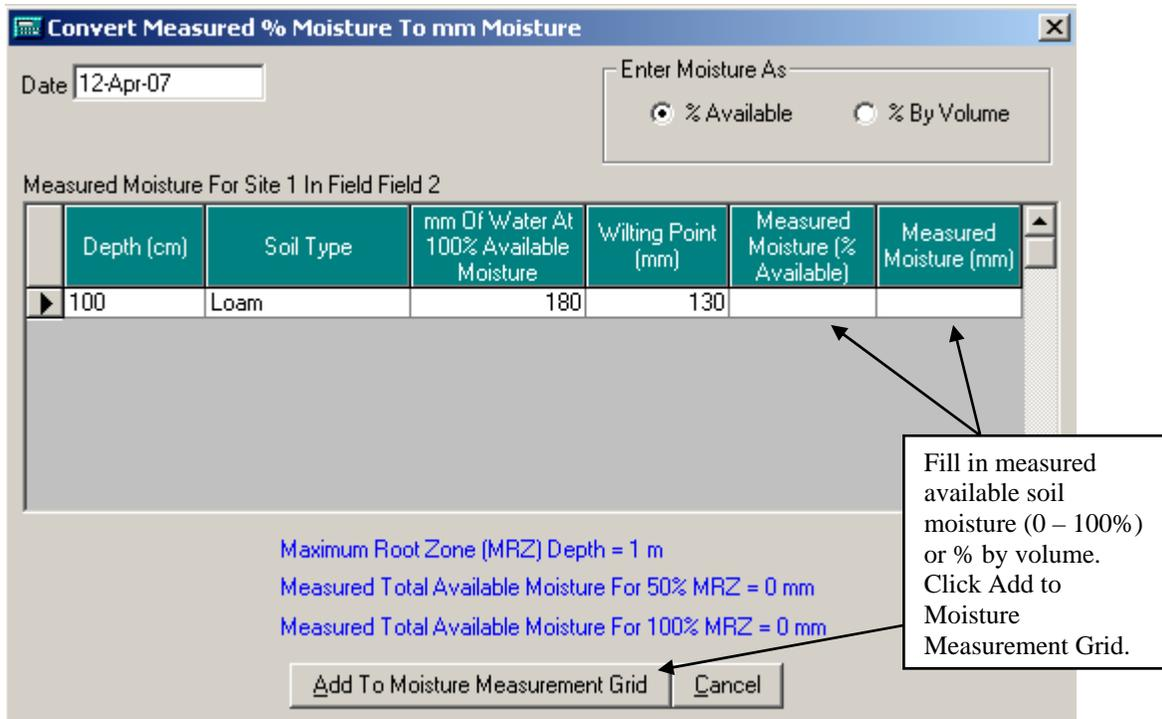

Figure 34. Converting percent soil moisture to millimeters.
- Double clicking on a blank 'Sample Date' box will open a calendar to record the month, day and year of the soil moisture sample. Clicking on the window 'Convert % Moisture to mm' will open a second window (Figure 34). Entry of the soil moisture values can be by '% Available' or by '% Volume'. The '% Available' option is selected by default. Soil moistures can be entered for each soil profile depth in the 'Measured Moisture' cell.